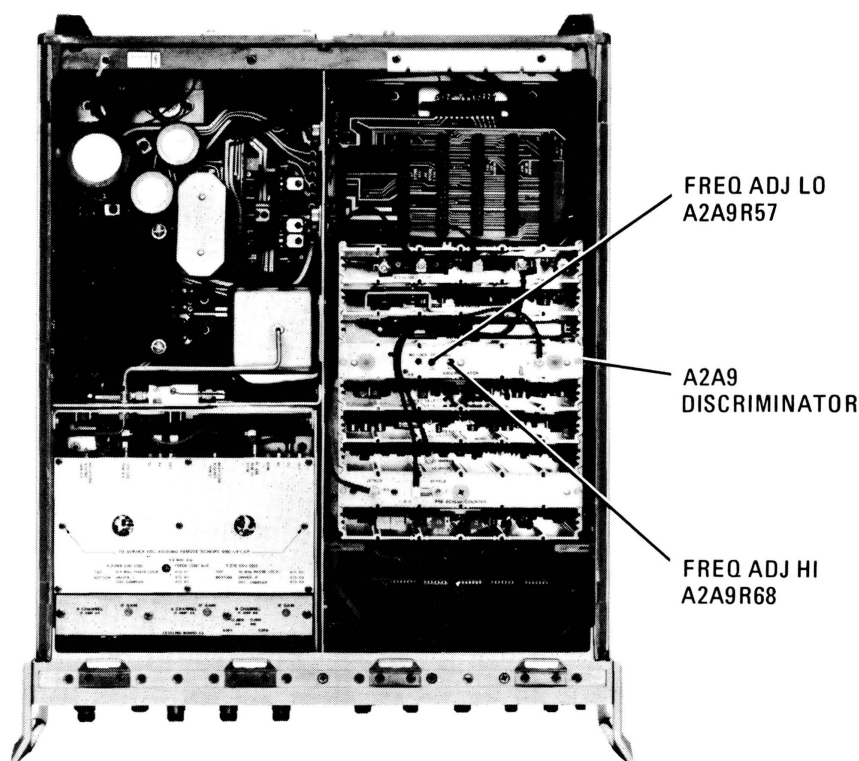

Figure A5-16. A2A9 Discriminator Adjustment Locations
- c. Adjust “FREQ ADJ HI” control A2A9R68 for (10) 0.000 MHz ± 0.2 MHz indication on FREQ COUNTER digital readout (See Figure A5-16).